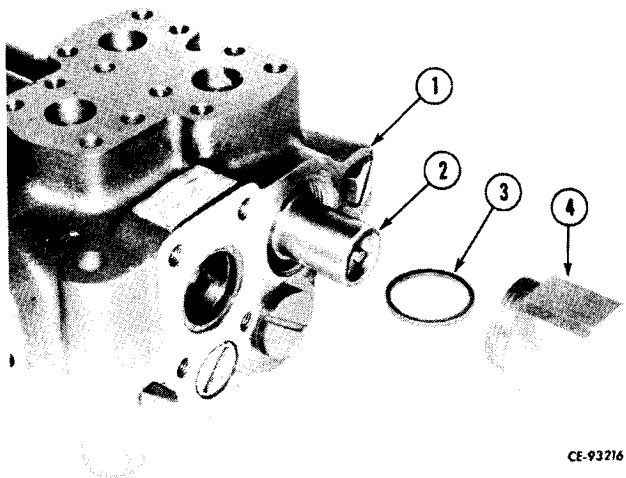

Figure 11-74
Remove the cap (4, Fig. 11-74). Slide the lock plunger (2) out of the valve (1). Remove the seal ring (3) from the cap.